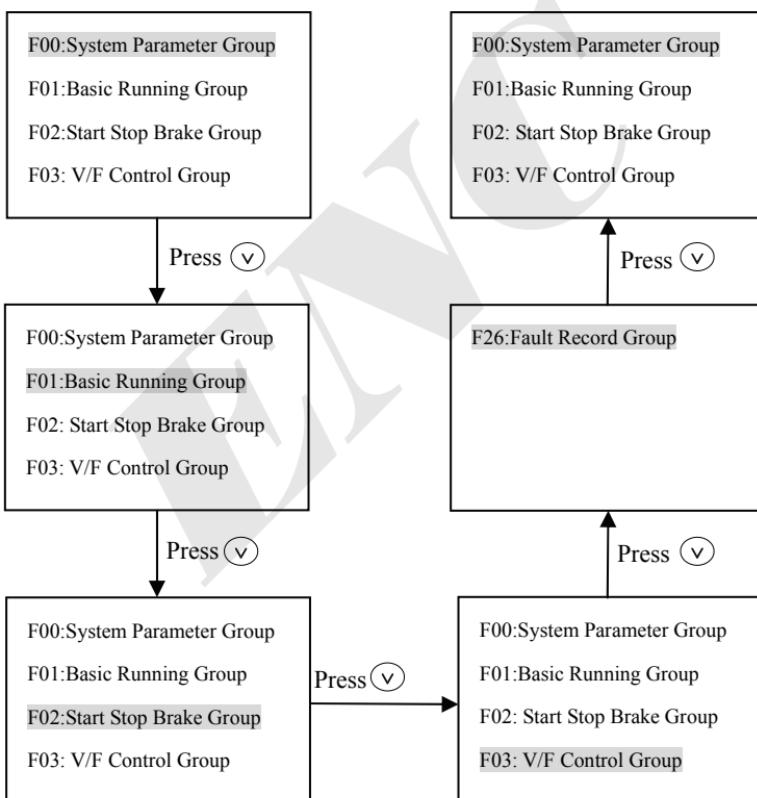

Fig.C-4 Power on initialized display
#### (2) Operation of switching to firstly menu (Fig. C-4):
When set F00.00=2, Senior Menu parameters F00~F27 can be displayed, 28 groups in total. Operation methods are shown as Fig. C-4.